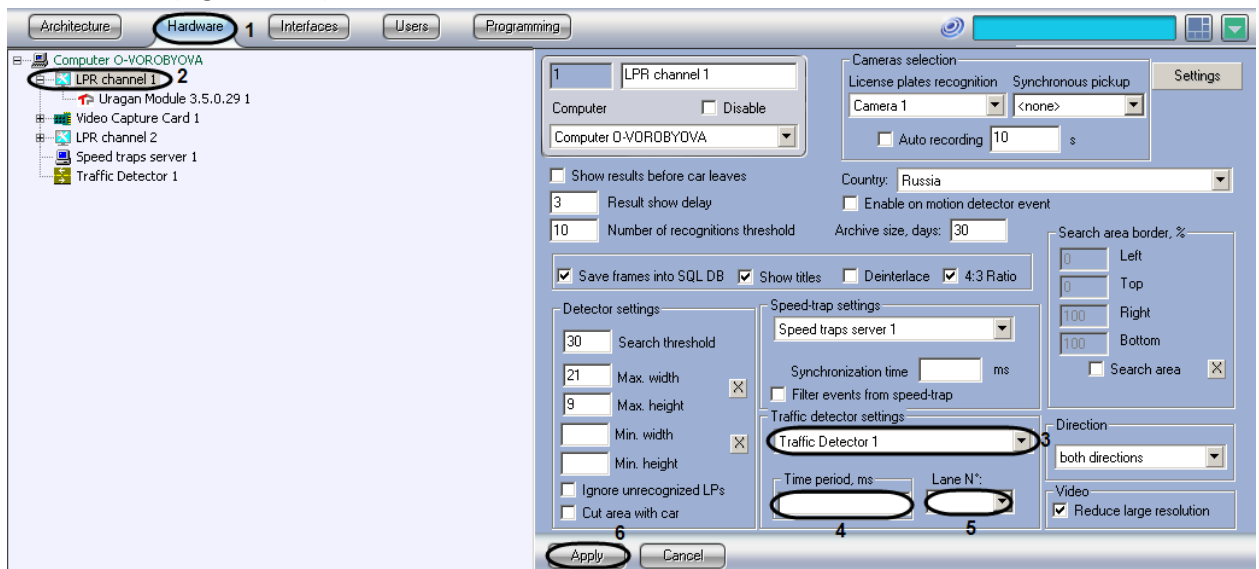

Fig. 7.2—21Setting up the joint operation of the LPR channel and Traffic Detector modules
2. In the object tree on the left side of the Hardware tab, select the LPR channel, corresponding to the activated Auto-Uragan 3.5.0.29, CARMEN-parking or CARMEN-Auto program module in the objects tree on the Hardware tab (see. «Program module activation, used for Plates identification»). The settings panel of the selected object will open on the right side of the window (Fig. 7.2—21).